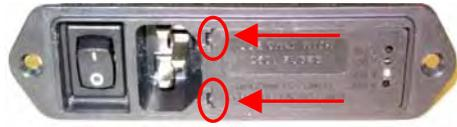

Fig. 4: Fuse cartridge
- Open the mains filter, using a small screwdriver (→ Fig. 4).